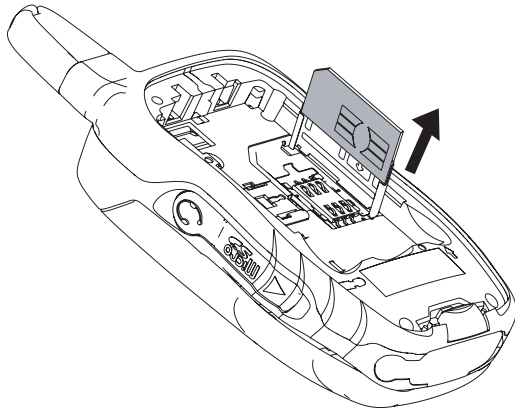

Figure 1-3. Removing a SIM Card
To remove a SIM card (Figure 1-3):
4. Open the SIM card holder (see Figure 1-3).